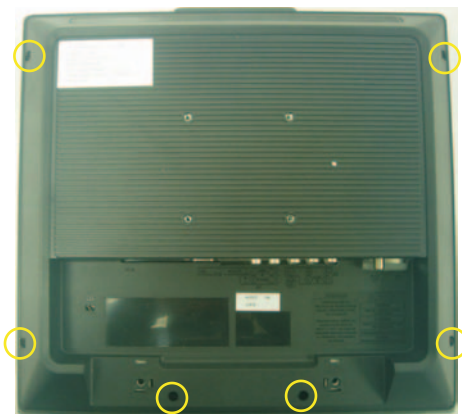

Fig.3
Step 2. Remove the Back cover and Main shield assy as Fig.3~5.
a. Remove the 6 screws on the bottom side as Fig.3.